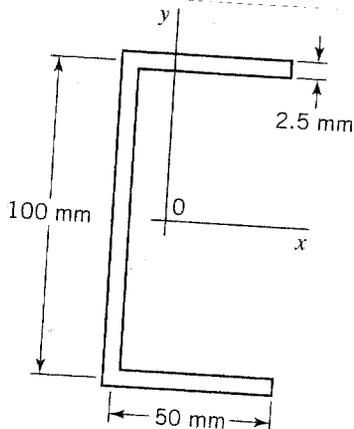

FIGURE P8.25
8.25. The channel shown in Figure P8.25 is subjected to non-symmetric bending. The associated shear forces, which act through the shear center, are  $V_x = -2400$  N and  $V_y = 1800$  N. Determine the distribution of the shear stress throughout the cross section. Make a sketch, to scale, of the shear stress distribution in the channel walls.